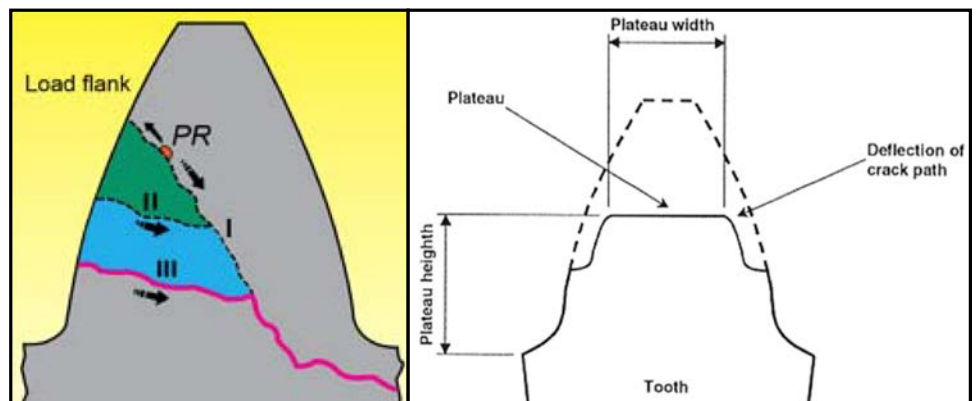

Figure 1 Expected crack propagation paths for TFF (Ref. 4) (left) and TIFF (Ref. 1) (right).
- **Scallops and generating flats are not “errors.”** On pre-finish gears, scallops and generating flats are expected—and often desirable—geometric features. As such, they should not affect the evaluated quality (Figs. 1, 2, 4, 6 and 7).
Gears are case hardened to produce residual stresses at the surface, improving wear resistance, bending fatigue, and contact fatigue strength. These beneficial, compressive stresses are balanced by tensile stresses within the core. This poses an increased risk of fatigue crack initiation in the material below the surface. Both tooth flank fracture (TFF), also known as tooth flank breakage (TFB), and tooth interior fatigue fracture (TIFF), describe a failure mode where a subsurface fatigue crack initiates close to case core boundary, at approximately mid-height on the tooth. Previous research (Refs.1-8) has established that the direction in which the crack propagates and the appearance of the associated fracture is dependent on the flank loading (i.e. — single-stage loading vs. idler usage). Although there does not appear to be total agreement in the literature, TIFF (failure with reverse loading) and TFF (failure with single flank loading) appear to have very similar characteristics and crack initiation mechanisms. However, as shown in Figure 1, the final fracture shape is different, due to TIFF having near symmetric total stresses along the tooth centreline (with two possible initiation points per tooth).